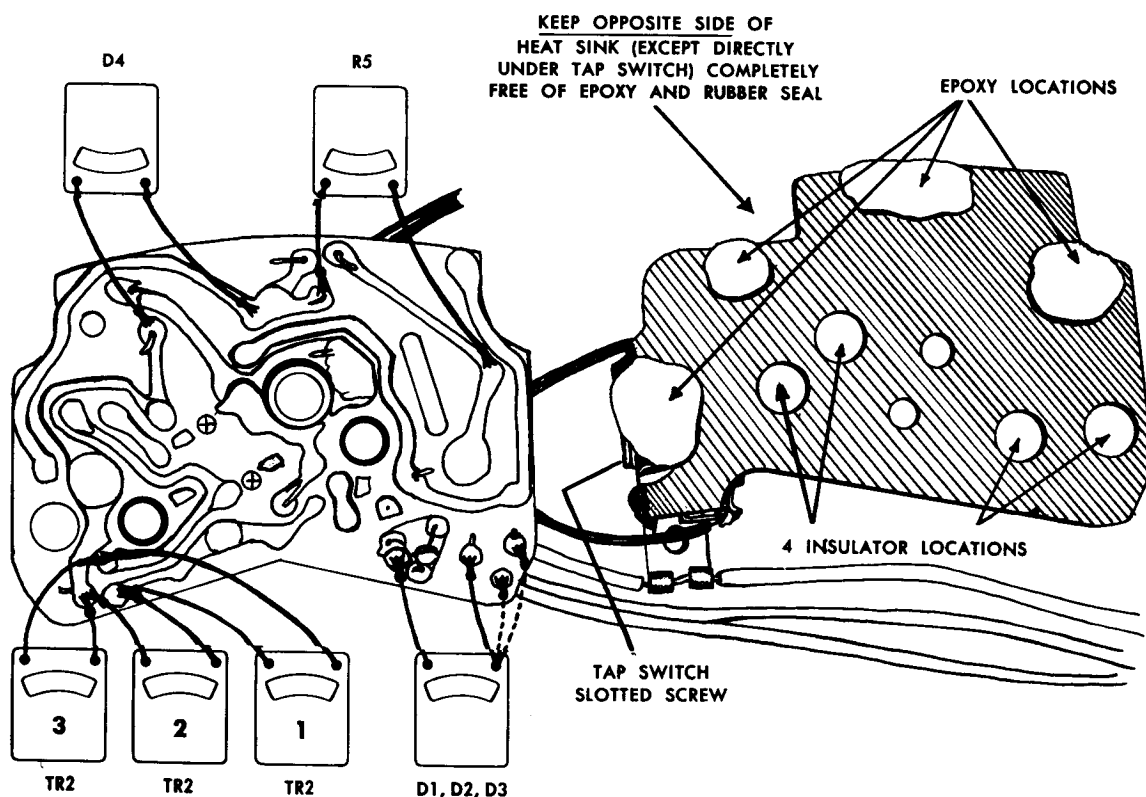

Figure 13—Checking Components
E. Check components as follows (Figure 13). Use 1½-volt ohmmeter on low scale. Reverse leads to get two (2) readings. SCRATCH HARD WITH SHARP INSTRUMENT TO BREAK THROUGH TRANSPARENT COATING OVER SOLDER TO MAKE OHMMETER CONTACT. Use 50 watt soldering gun.
- RESISTOR R5—If any reading is over one (1) ohm, replace resistor. Cut away sealing compound with sharp blade.
1. If heat sink is reused, burn away with soldering iron old epoxy separating heat sink from panel board. Apply new epoxy Part No. 1966807 at all four (4) locations on old or new heat sink (Figure 13).
IMPORTANT: Keep opposite side of heat sink (except under tap switch) perfectly clean and free of epoxy and rubber seal (Figure 13).